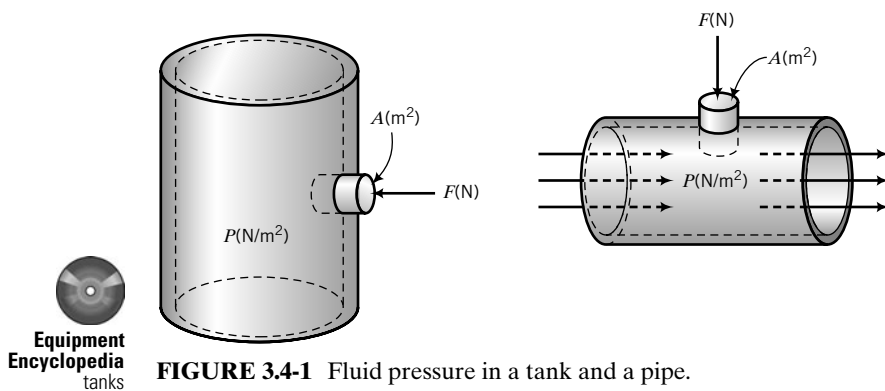

FIGURE 3.4-1 Fluid pressure in a tank and a pipe.
Consider a fluid (gas or liquid) contained in a closed vessel or flowing through a pipe, and suppose that a hole of area A is made in the wall of the containing vessel, as in Figure 3.4-1. The **fluid pressure** may be defined as the ratio F/A , where F is the minimum force that would have to be exerted on a frictionless plug in the hole to keep the fluid from emerging.
2. Consider the tank in Figure 3.4-1. Does the pressure at the plug depend on the height of the opening in the tank? (*Hint:* Yes.) Why? Would you expect the difference between the pressure at the top and that at the bottom to be very large if the fluid were air? How about water? Mercury?
3. Suppose the pressure in the tank of Figure 3.4-1 is given as 1300 mm Hg. Does this tell you anything about the height of the tank? If you were given the area of the hole (say, 4 cm^2), how would you calculate the force needed to hold the plug in the hole?